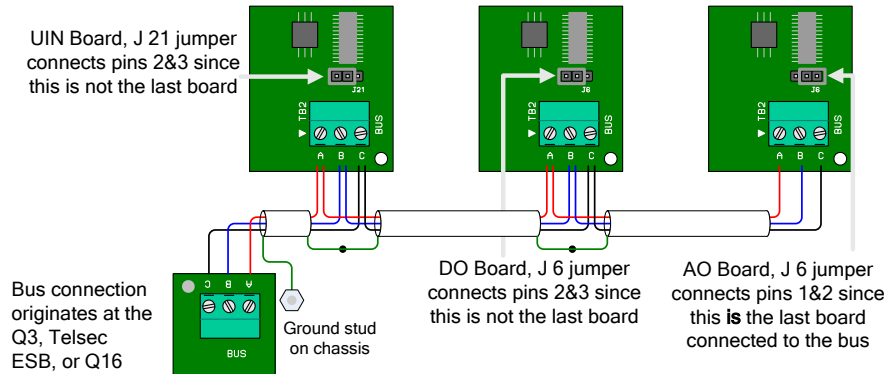

Figure 7: Example of Communication BUS Connection
Step 1: Connect the A, B and C BUS Terminal connections on the expansion board to the A, B and C BUS connections on the Q3™, TELSEC® ESB or QC16 (Figure 7). Daisy chain the boards together maintaining the correct polarity on all communication terminals (Figure 7). The type and order of board connection does not matter.
Step 2: Carry the shield drains through, tying them together, and only ground at the chassis of the QC16 or Q3™/TELSEC® ESB (Figure 7).